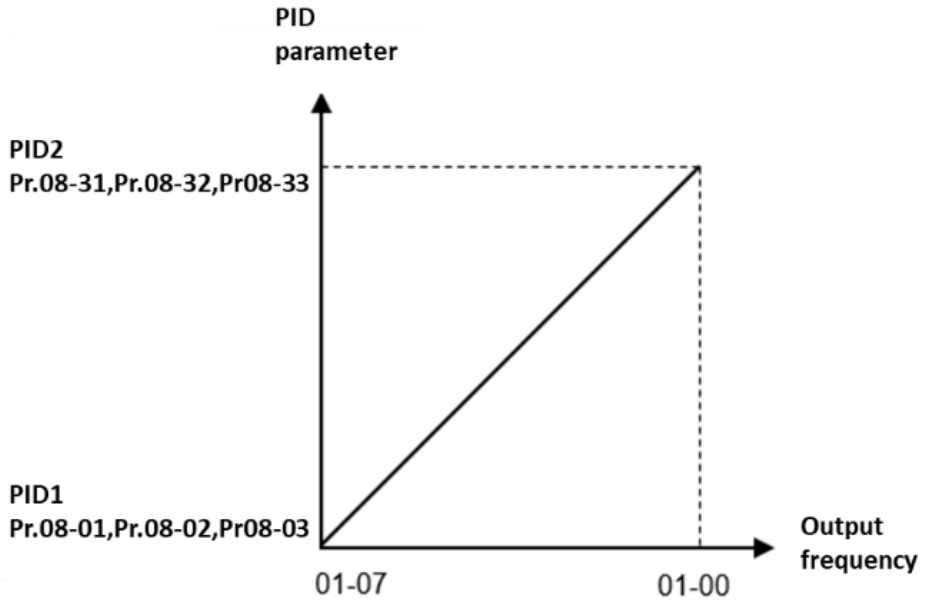
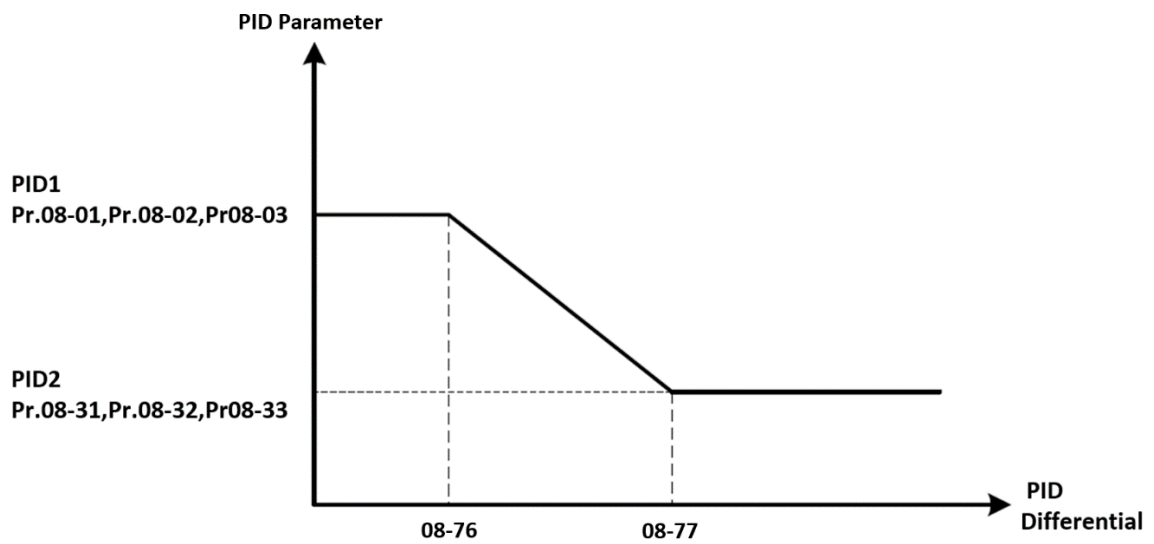

Figure 4 PID parameter auto-switches based on output frequency
Figure 5 PID parameter auto-switches based on deviation
-  There are two ways to switch between the two sets of PID parameters, auto-switch based on frequency and auto-switch based on deviation. When you use auto-switch based on frequency and the output frequency is between Pr.01-07 and Pr.01-00, as shown in Figure 4, the PID parameter is the linear interpolation of these two sets of PID parameters. If you use auto-switch based deviation, as shown in Figure 5, and the deviation absolute value between the given and feedback is smaller than the PID2 parameter switch deviation 1 (Pr.08-76), the PID parameter uses the first set. If the deviation absolute value between the given and feedback is larger than the PID2 parameter switch deviation 2 (Pr.08-77), the PID parameter uses the second set. If the deviation absolute value between the given and feedback is between switch deviation 1 and switch deviation 2, the PID parameter is the linear interpolation of these two sets of PID parameters.